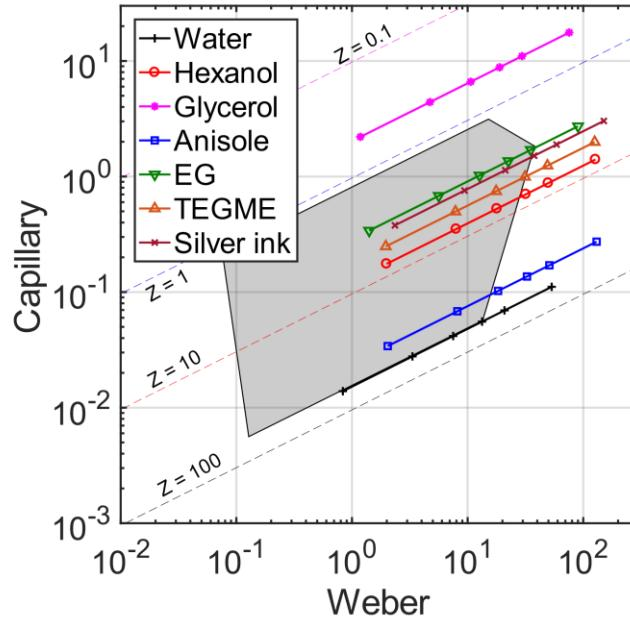

Fig. 1 Capillary / Webber map to determine jettability
- Considered the printability window shown in Fig. 1, explain which inks are not printable and why?
- The inks outside the printability window in regions 1,2,3, and 4, indicated in Fig. 1, are not printable. Explain what limits the printability in each region.
- The dotted lines in Fig. 1 indicate Z numbers of 100, 10, 1, and 0.1. Label the figure with the Z number corresponding to each line.
- d) The Z numbers are shown in Fig. 1